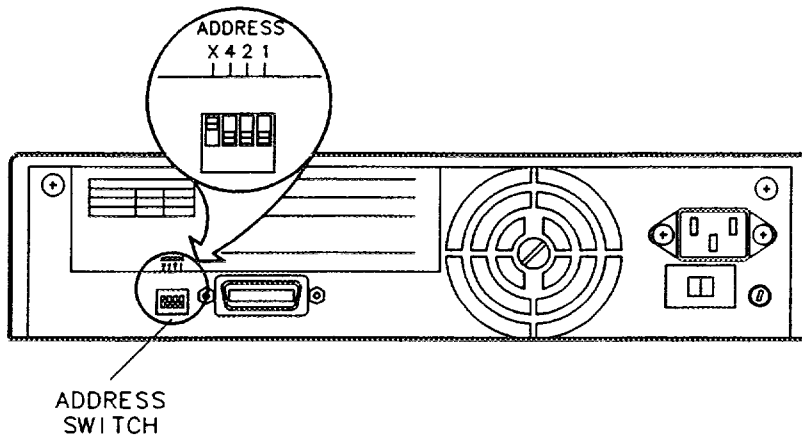

Figure 4-2. ADDRESS Switch
- a. Set the LINE- switch to ON (1) and allow power-on self-test to complete.
- c. Set the ADDRESS switch (figure 4-2) to the desired selectable self-test number (refer to table 4-2).